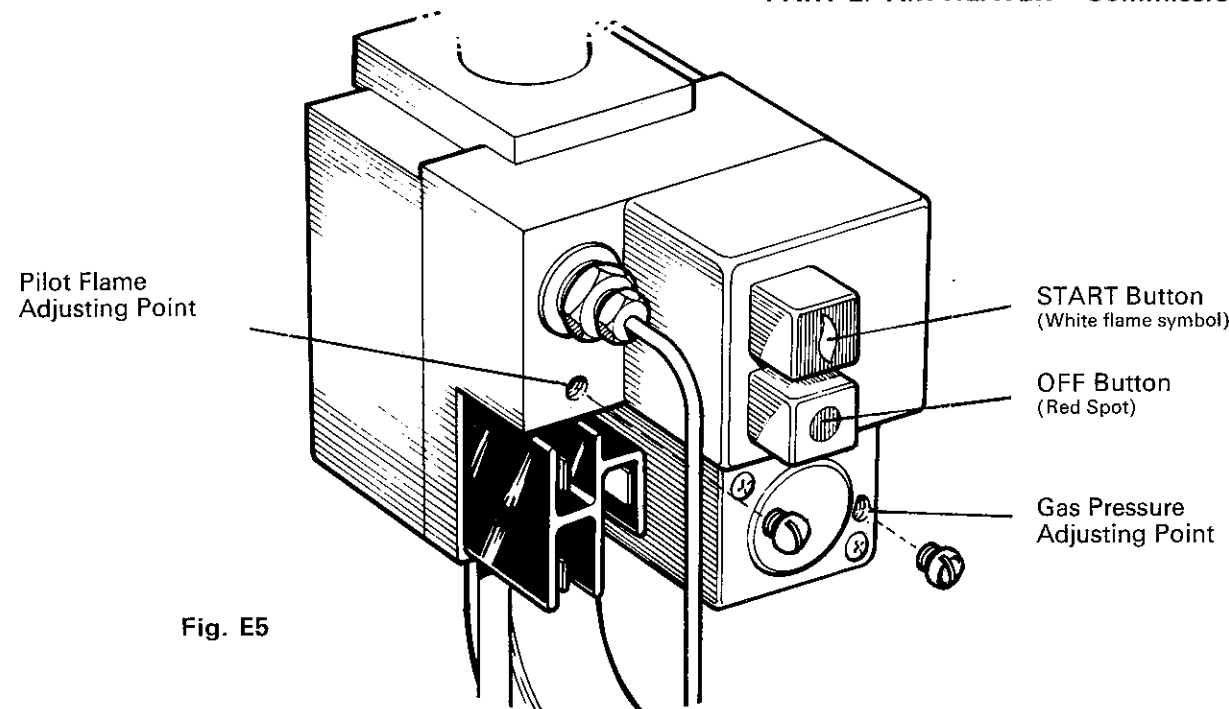

Fig. E5
- (h) Adjust pilot flame if necessary so that it just envelops thermocouple tip. To adjust flame, remove screw cap from adjustment point (see Fig. E5) and turn screw *clockwise to decrease, anti-clockwise to increase* flame.
- (i) Adjust burner bar pressure to output required. (See Table Fig. E4). Heaters are factory set to pressure giving maximum output at gas group specified. To adjust pressure, remove screw cap from adjustment point (see Fig. E5) and turn screw *clockwise to increase, anti-clockwise to decrease* pressure.
Reduce flame of pilot burner by turning screw clockwise at pilot flame adjusting point (see Fig. E5) until it extinguishes. Check that main burner extinguishes, i.e. gas control 'fails safe'.